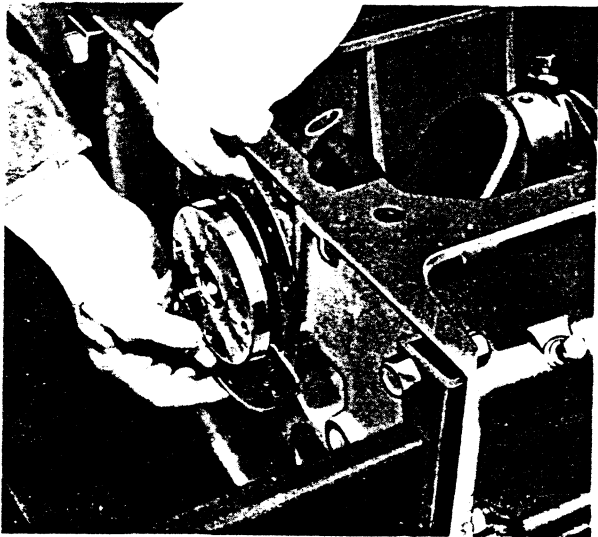

FIG. 40
1. Remove the two rear oil seal retainers Fig. 40, which are each secured by 4 set screws on lock washers.